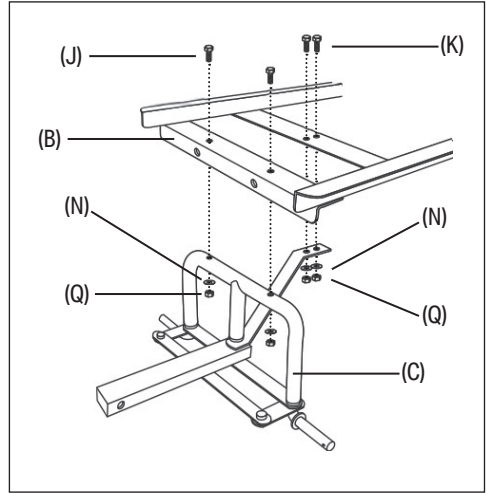

Fig. 3
3. Attach the base frame to the front axle assembly - Fig. 3:
- a. Place the base frame (B) on top of the front axle assembly (C) so that the flat crossbar aligns with the moving arm and the bracketed crossbar wraps around the arch.
- b. Pass two M8 x 35mm countersunk bolts (J) each down through the bracketed crossbar and arch, and secure them in place with an M8 washer (N) and an M8 nylon-insert lock nut (Q).
- c. Pass two M8 x 20mm hex bolts (K) each down through the flat crossbar and moving arm, and secure them in place with an M8 washer (N) and an M8 nylon-insert lock nut (Q).